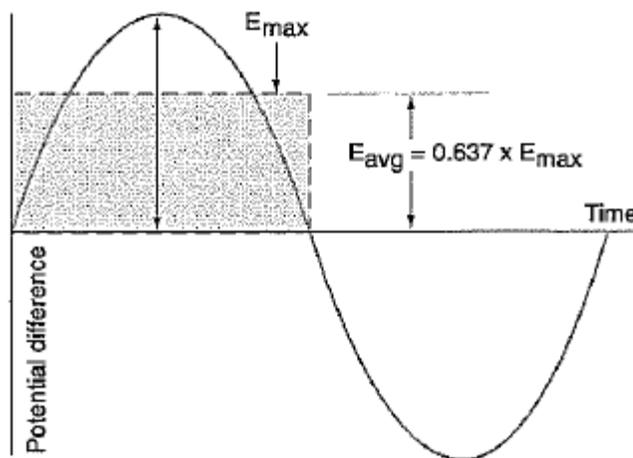

Figure 9.2: Average Potential Difference
9-16 The average value over *half* a cycle is not zero. To understand how such an average is calculated, think of a graph for half a cycle, as shown in Figure 9.2. This graph has the shape of half a sine curve. You can measure the area under the curve. Then to calculate an average, you find a *constant* value that has an area underneath it that equals the area under the sine curve.
- 9-17 Figure 9.2 shows this average for *potential difference*. The average equals 0.637 times the maximum value, represented by the peak of the sine curve. The graph of *current* is also a sine curve, so the average current equals 0.637 times the maximum value of current.